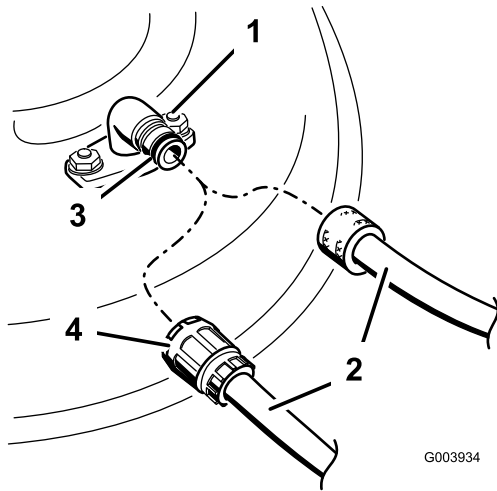

Figure 29
4. Attach a hose to the washout fitting, and turn the water on high (Figure 29).